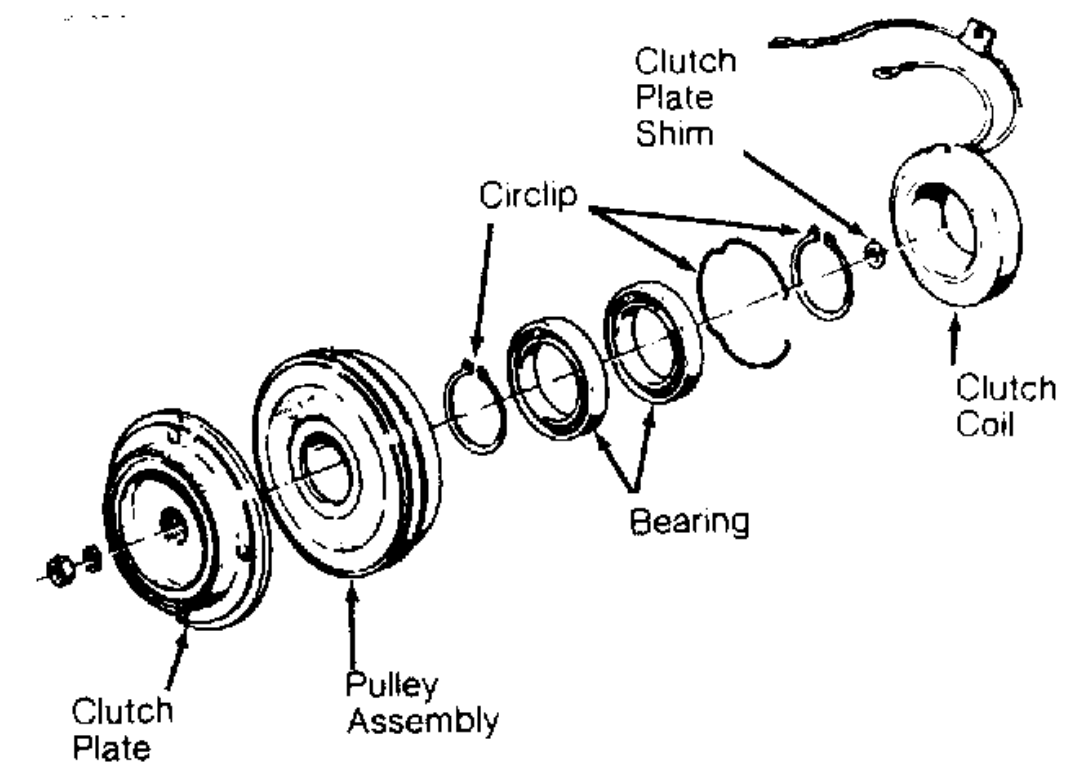

Fig. 2: Bosch 6-Cylinder Compressor Clutch
2. Using a feeler gauge, check clutch plate-to-pulley clearance. Clearance should be .028-.051" (.7-1.3 mm). If clearance is not correct, remove clutch plate and replace clutch plate shim. See Fig. 2.